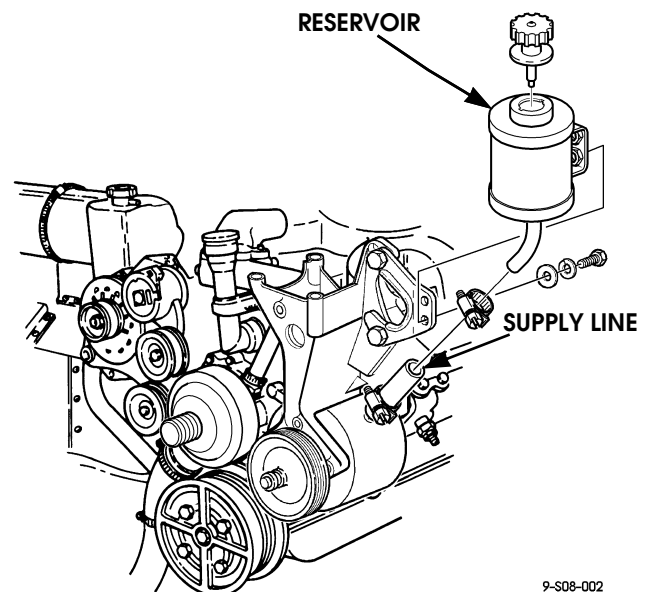

Figure 8-27: Reservoir Replacement
2. Loosen the hose clamp and disconnect the power steering pump supply line from the reservoir (Figure 8-27).